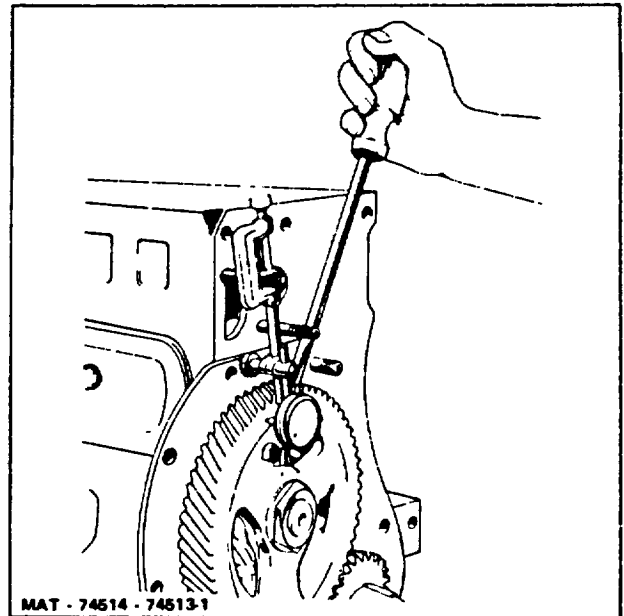

Figure 57. Checking Camshaft End Play
4. Check camshaft end play as shown in Figure 57. Refer to TOPIC 1. FITS AND TOLERANCES section for the correct dimension.